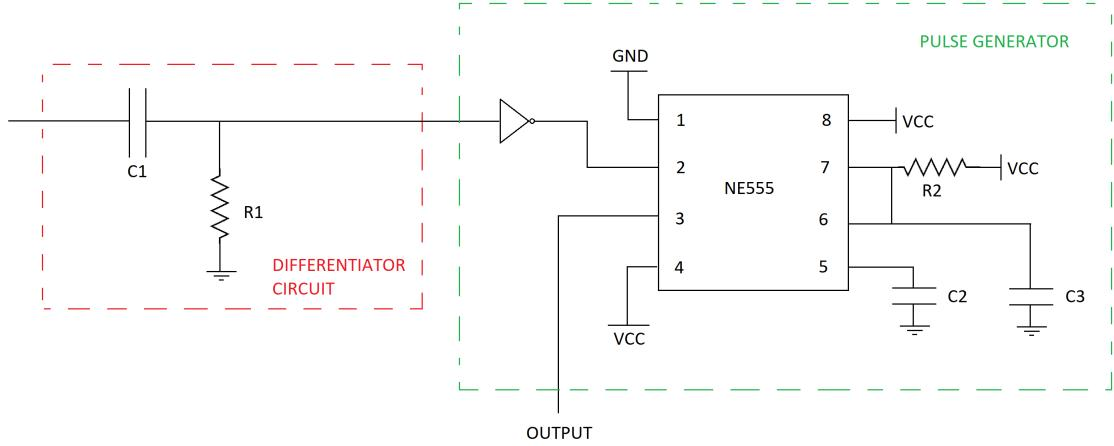

Figure 5: Pulse Generator
**Pulse Generator Circuit** To power this pulse generator we've used a NE555 Precision Timer, that by connecting it as shown in Figure 5, we have made a Pulse generator of the timme we wanted.